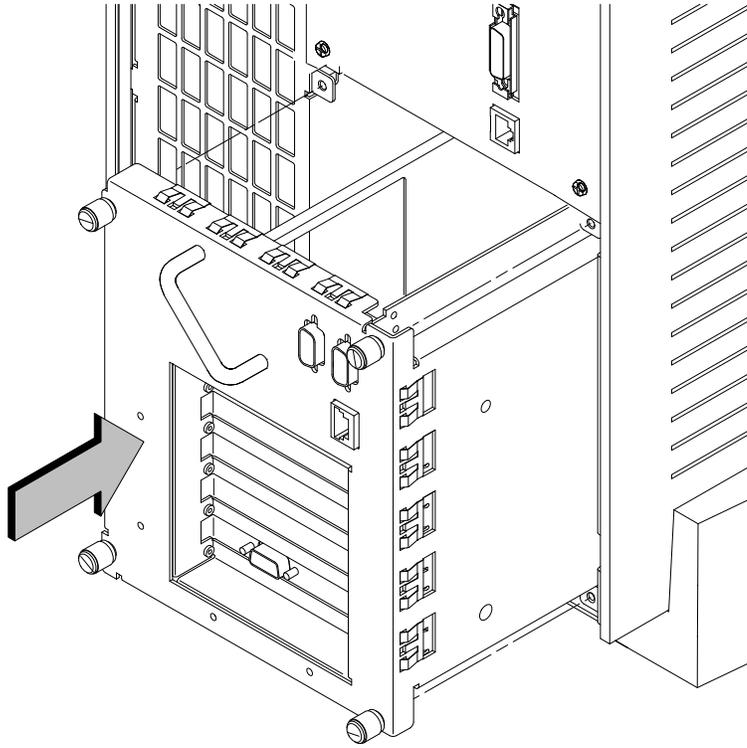

Figure B-40. Replacing EISA Assembly
9. Slide the EISA Assembly into the system unit and secure it with the four captive screws. See Figure B-40.